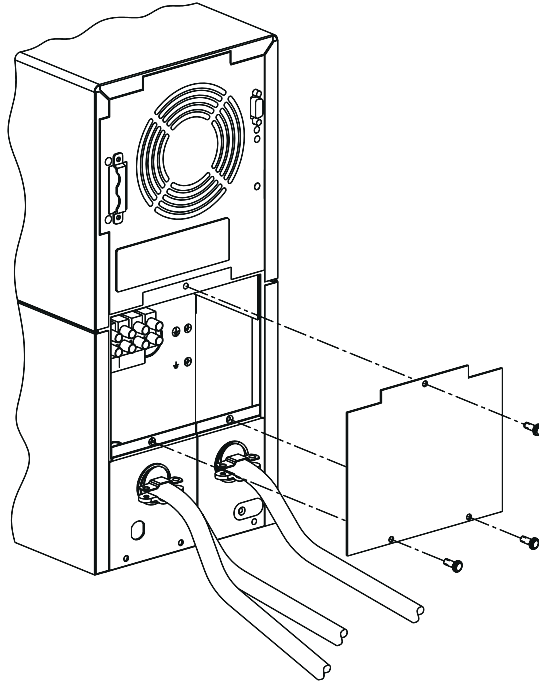

Figure 5-15 Installation of Access Panel (208V Tower)
1. Slide the access panel (Figure 3-1, item #3) into position as shown in Figure 5-15. Make sure printed side is facing out.